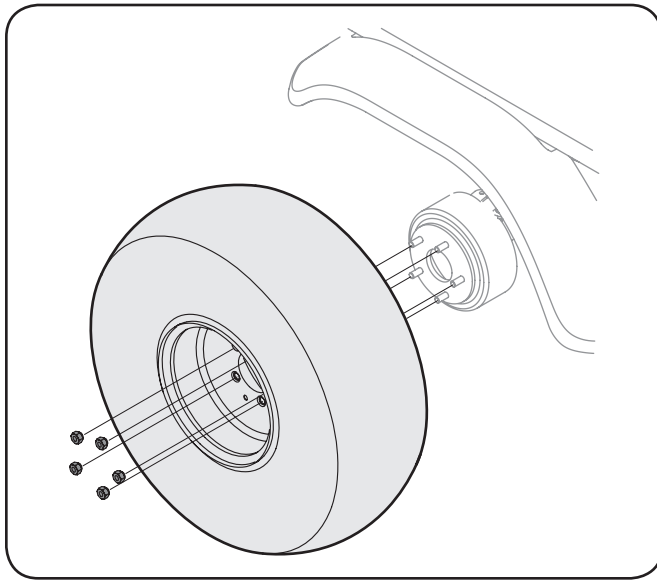

Figure 7-3
3. Loosen but do not remove the five lug nuts from the axle hub. See Fig. 7-3.